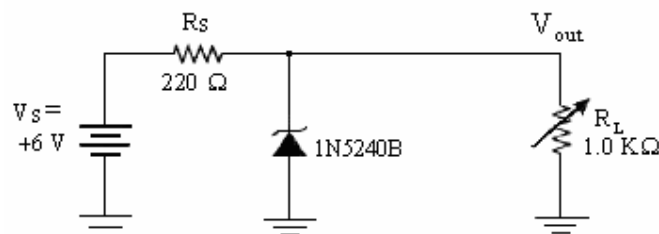

Fig.5: Load Regulation
- Construct the circuit shown in Figure 5. Set the power supply to a fixed + 6 V output and set the load resistor (R_L) to 1 K Ω .
Compute the load regulation for the circuit in Figure 5. (Assume V_{out} for the $1.0\text{ K}\Omega$ resistor = V_{NL} and V_{out} for the $100\ \Omega$ resistor represents V_{FL}).